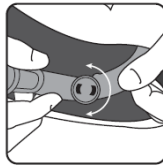

Fig. 4
4. Close the chinstrap as shown in Fig. 4, until you hear the click as the buckle locks into place. Pull on the chinstrap to make sure the buckle is closed properly. Tighten the chinstrap to a comfortable length.